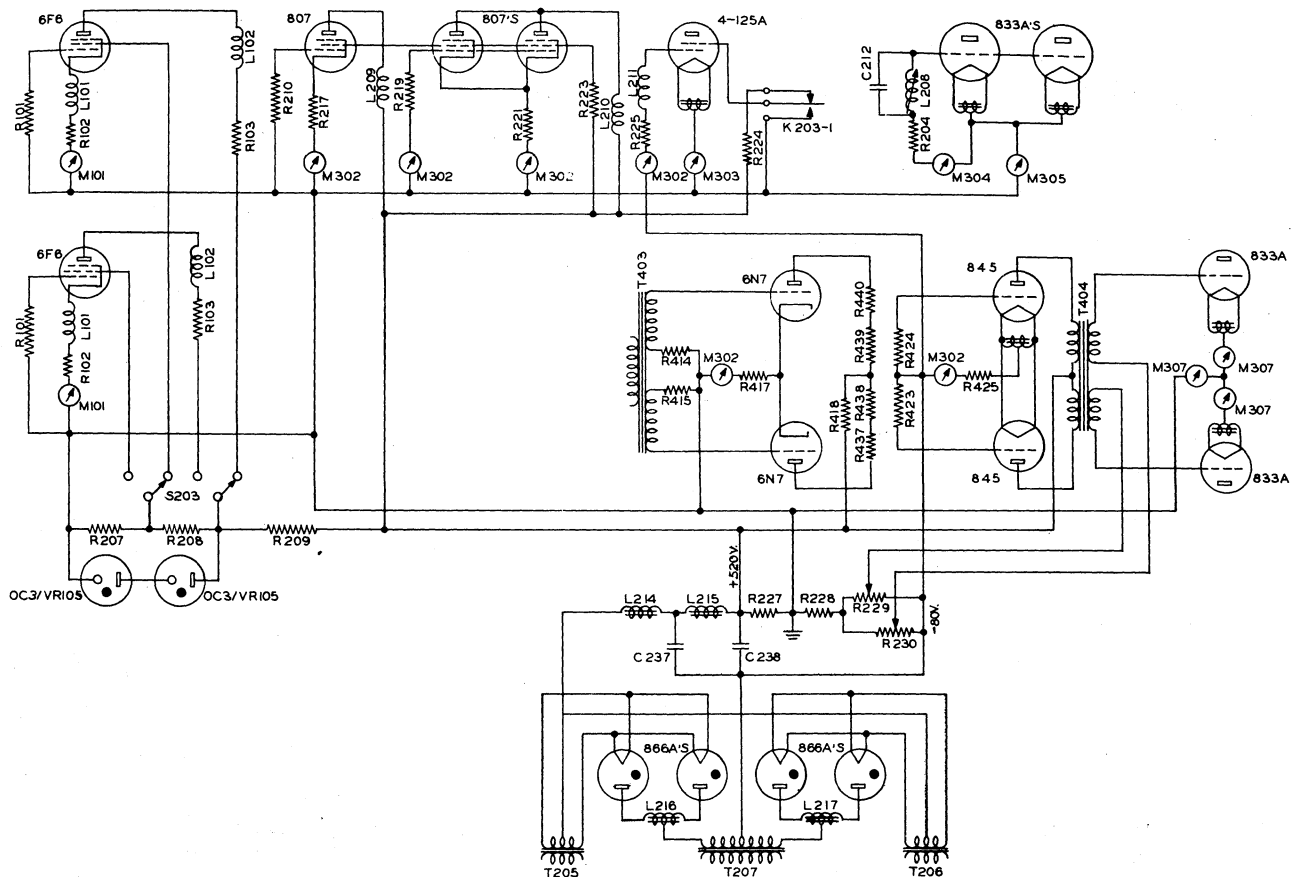

Figure 3-7 Low Voltage and Bias Circuits Simplified
3.1.5. Low Voltage and Bias Supply. (Refer to figure 3-7). Four type 866/866A half wave mercury vapor rectifier tubes are connected in a full wave rectifier system. Power is applied to the plates of the low voltage rectifier by the operation of contactor K403. The plate current flow of the parallel connected 866/866A's is divided by two center tapped chokes, L216 and L217. This arrangement insures more uniform firing of the mercury vapor rectifiers. Should either tube of the parallel connection, "fire" first, the current flow thru the winding to the conducting tube induces square wave impulses in the remaining half of the winding, of sufficient magnitude, to cause the other tube to fire. The dc resistance of the two halves of the chokes